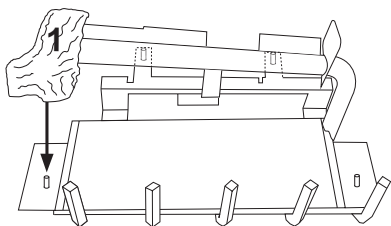

Figure 34 - Installing Log #1, Model CD42M-LS
1. Place log #1 (small base log) onto pin on left side of grate extension (see Figure 34).
3. Align holes on right face extension with holes on right side of front face assembly and secure with screws previously removed (see Figure 34). Do the same for left side.
4. Secure top face extension with left and right face extensions with two sheet metal screws (see Figure 34).